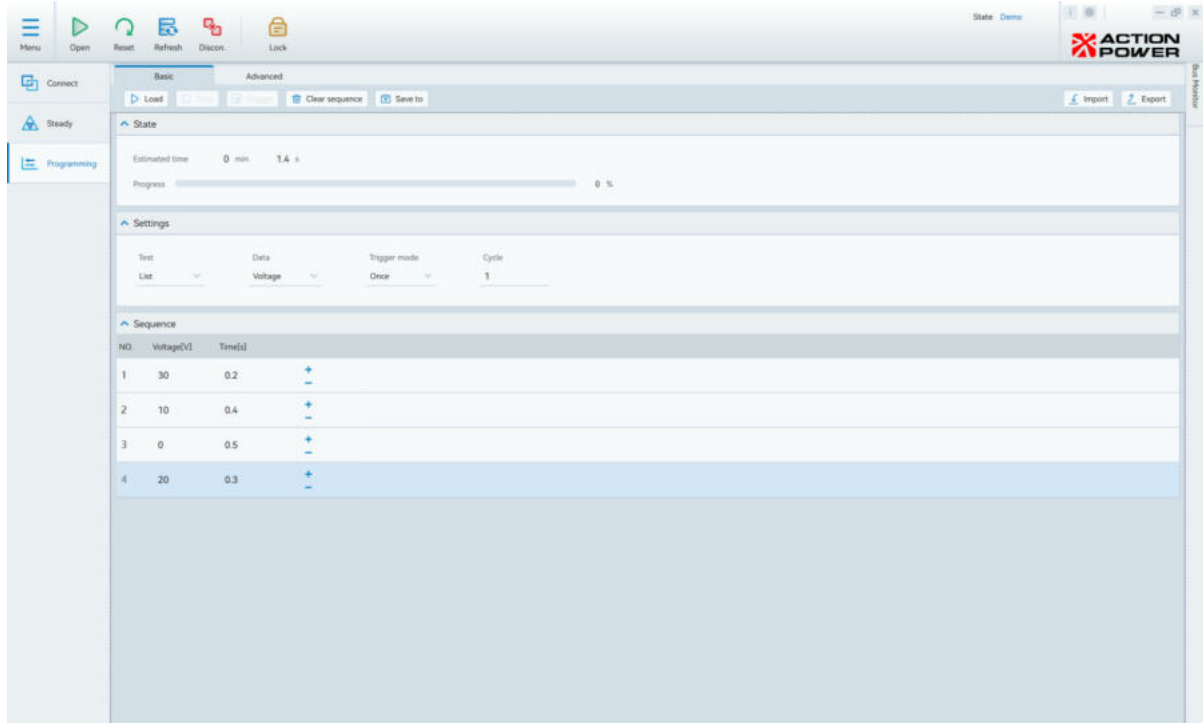
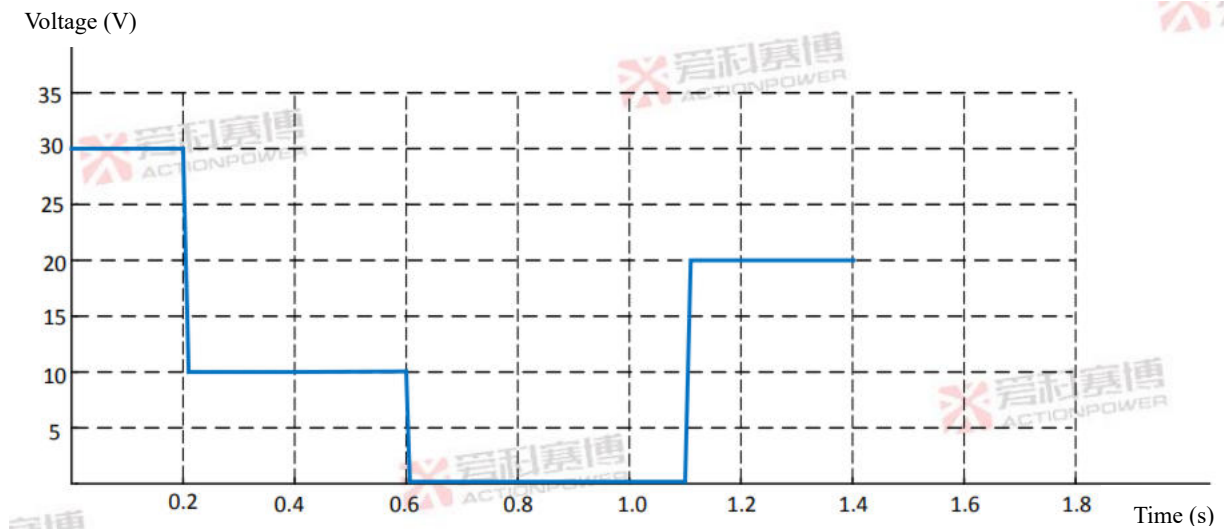

Figure 5.2.2 Example diagram of List sequence configuration
Figure 5.2.3 Example diagram of List waveform
- Example: Select List for the experiment, choose Voltage for the experimental data, configure the sequence as shown in Figure 5.2.2, and the corresponding waveform is shown in Figure 5.2.3.